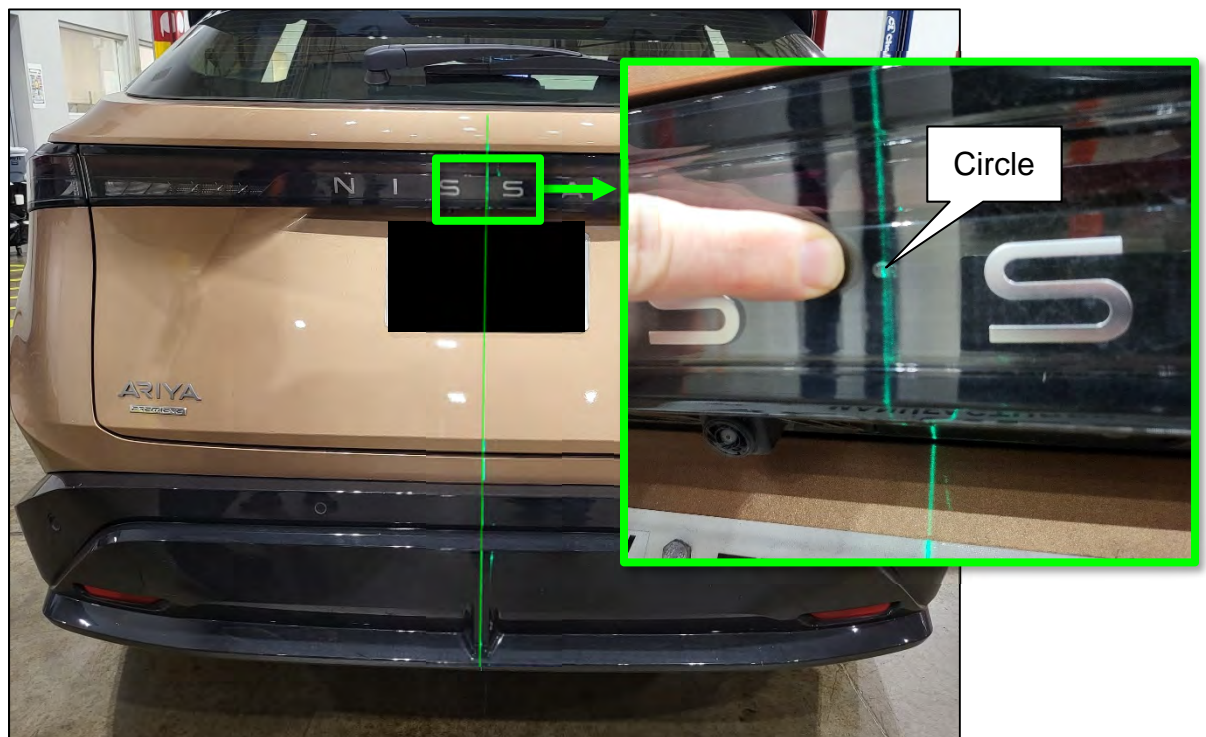

Figure 61
44. Place the laser level approximately 800 mm (31.5 in.) from the rear of the vehicle and align the laser with the center mark at the front of the vehicle and the circle in between the S's in NISSAN, as shown in Figure 61.